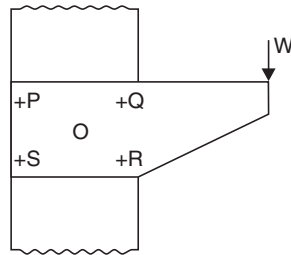

FIGURE 8.35
34. An eccentrically loaded riveted joint is shown in Fig. 8.35 with 4 rivets at *P*, *Q*, *R* and *S*. Which of the rivets are the most loaded?